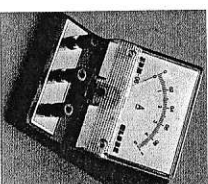

Figure 2
Figure 2 shows a typical ammeter. An ammeter measures the amount of electric current flowing past a point in a circuit. Depending on the electrical appliance, the current varies. The SI unit for current is the ampere (A).